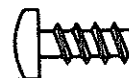

Fig. 37 - Plastite Screw
4. Attach the *doors* to the *hinges* using four plastite screws. Tighten with a Phillips screwdriver. (Figure 37)